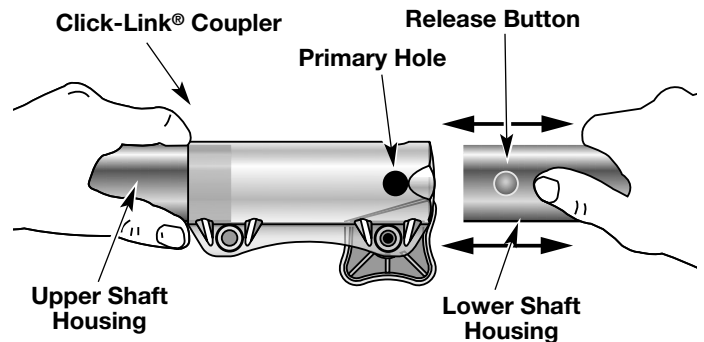

Fig. 2
2. While firmly holding the add-on, push it straight into the Click-Link® coupler (Fig. 2).
NOTE: Aligning the release button with the guide recess will help installation (Fig. 2).